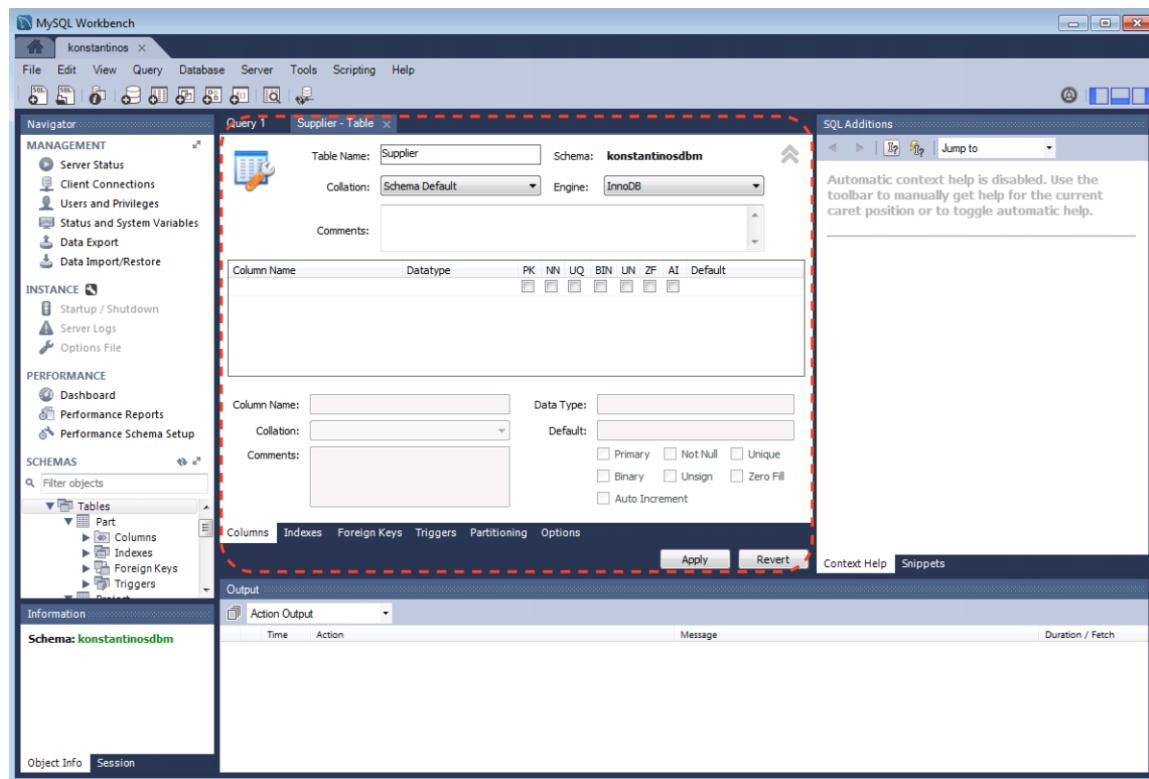

Figure 4: Creating New Supplier Table
2. Enter the name of the table as “Supplier” as shown in Figure 4. Do not click “Apply” yet.